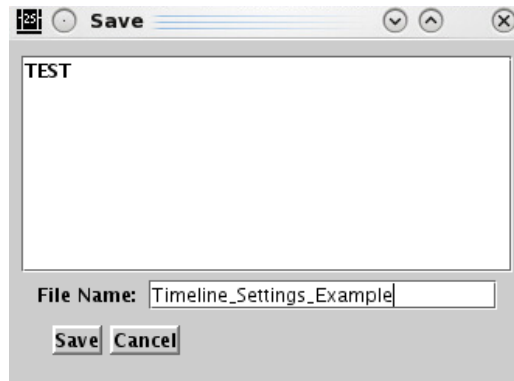

Figure 21. Save for Quick-Crete in Timeline settings.
**Step 2:** Enter the preferred file name for future access. (Figure 21)